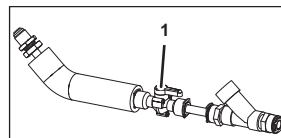

Figure 55
1. Close the shut-off valve (Figure 55/1).